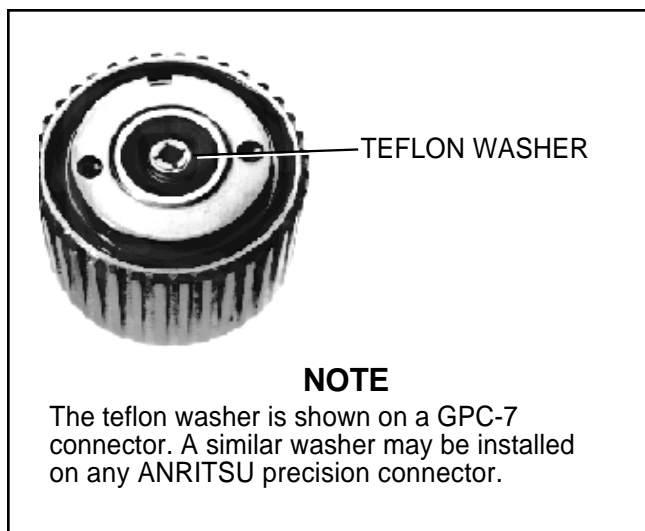

Figure 4. Tuning Washer on GPC-7 Connector
e. Do Not Disturb Teflon Tuning Washers on Connector Center Pins. The center conductor of many RF component connectors contains a small teflon tuning washer that is located near the point of mating (Figure 4, page 4). This washer compensates for minor impedance discontinuities at the interface. *Do not disturb this washer.* The location of this washer is critical to the performance of the RF component.